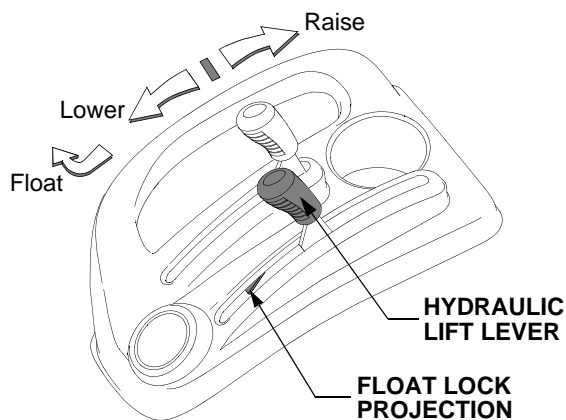

Figure 18
- Move the lift lever forward in the slot to lower the equipment to the desired height setting. Refer to Figure 18.